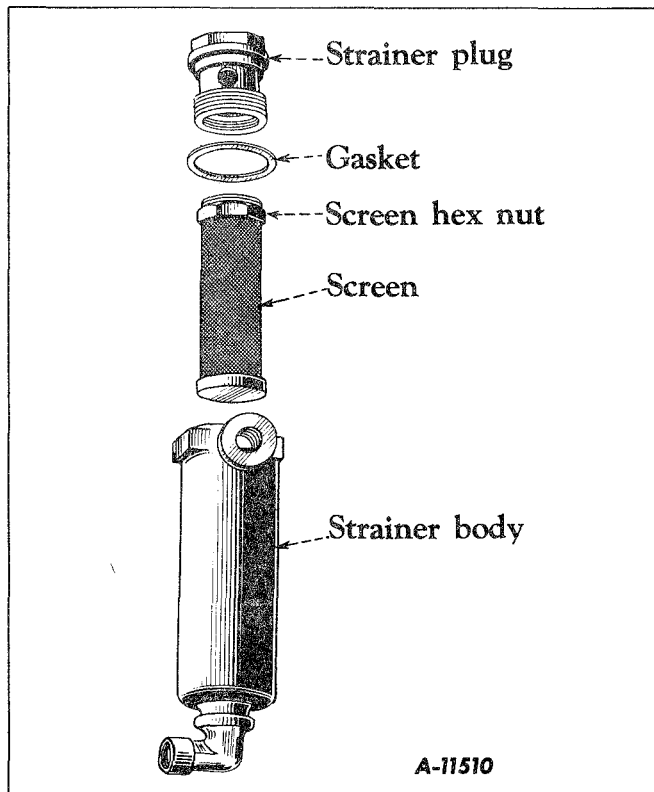

Figure 2-27
Loosen and remove strainer plug (1, Fig. 2-27) from strainer body (5). Remove screen (4) from end of plug (1).